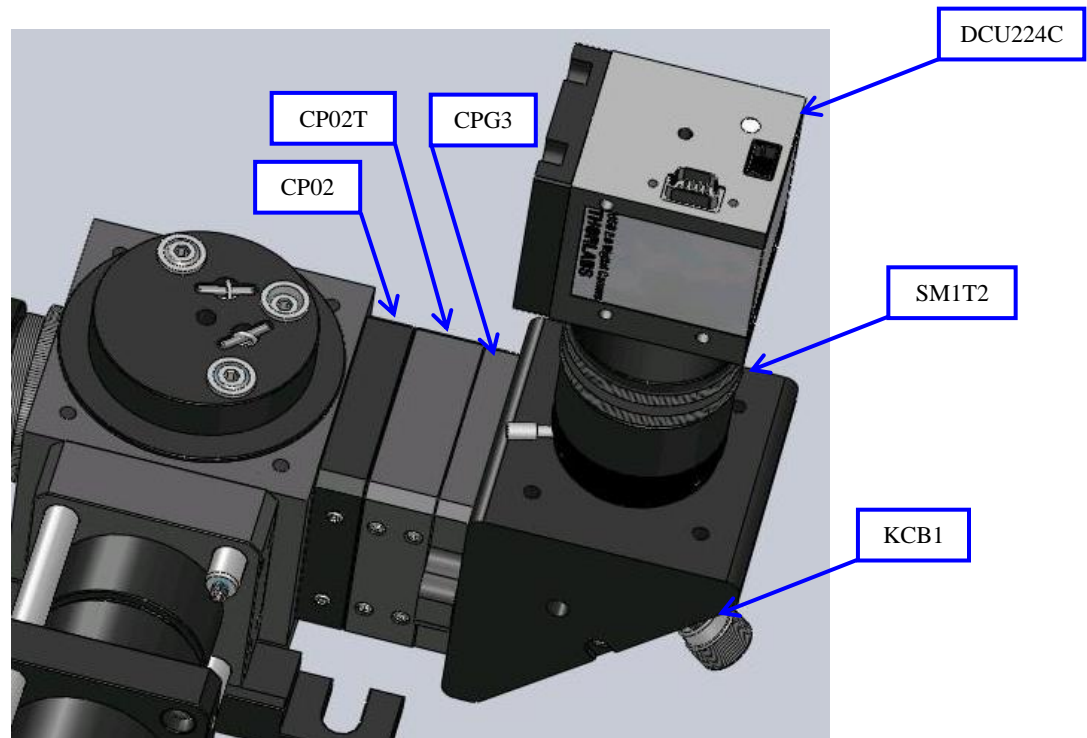

Figure 5.6.1: Building the camera segment.
3. Connect this to the central C6W by using the set screws in the C6W to tightly hold the four ER1 cage rods. Only a small part of the cage rods should extend into the C6W, otherwise the rods may not allow you to freely rotate the FM01 mirror after it has been installed inside the C6W cube. The ensuing assembly is shown in Figure 5.6.1.
6. Attach the DCU224C CCD camera to the SM1A9 as shown in Figure 5.6.1.